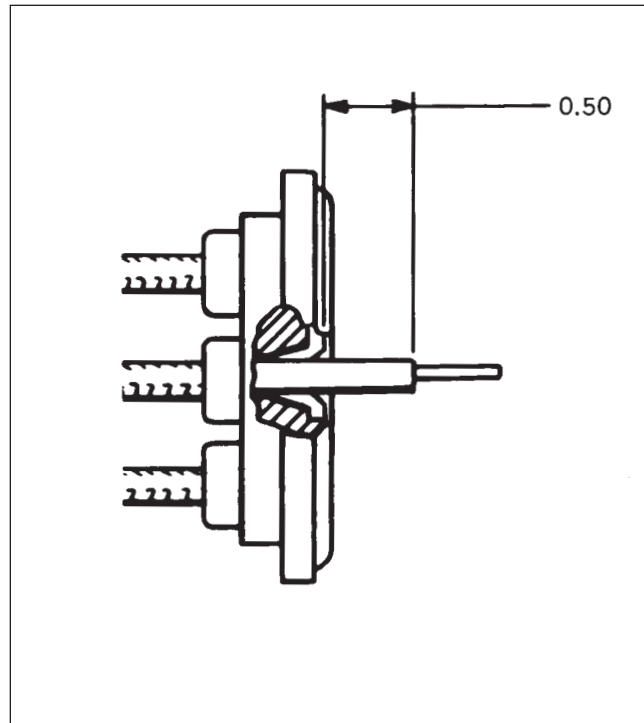

Figure 74-16. Measuring Wire From Top of Ferrule
- M. Measure 1/2 inches from tapered ferrule and strip remaining insulation from wire. (Refer to Figure 74-16.)